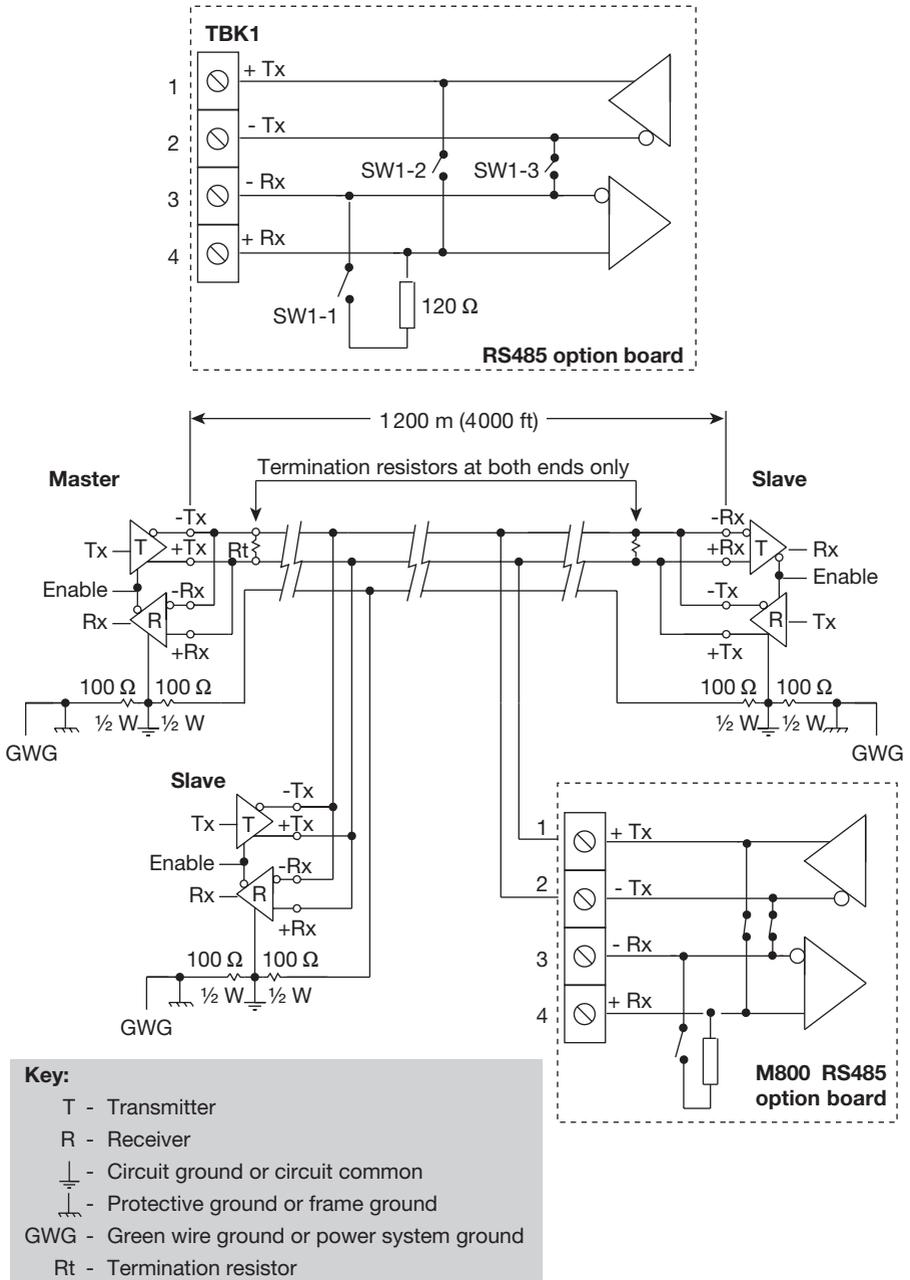

Fig. 28 Typical RS485 two-wire multi-drop network
- See Figure 28, for a typical installation.